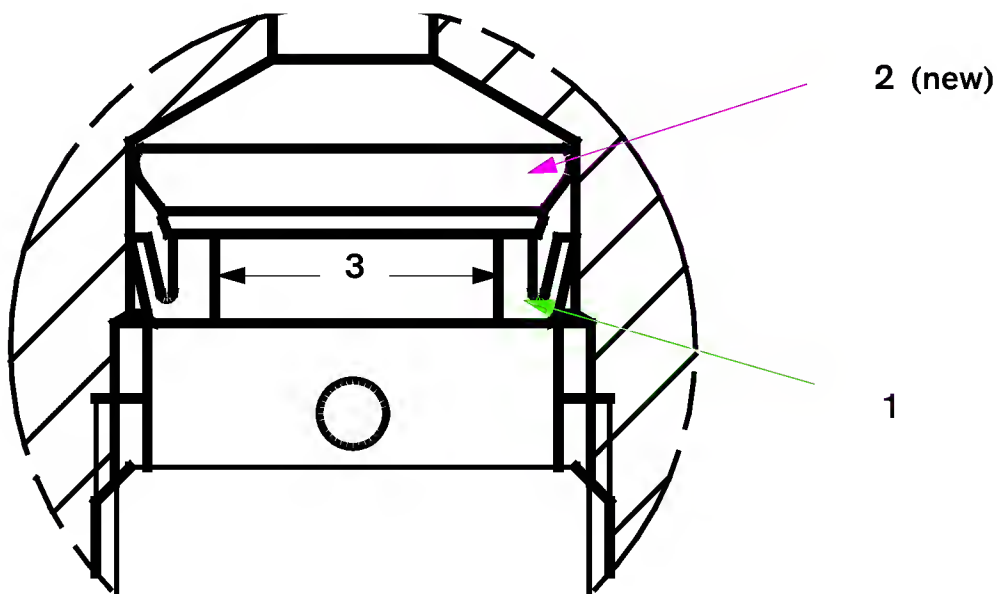

Fig. 26: Sectional view of NIST, DISS connectors (end piece) in the gas inlet block
- Apply Oxygenoex S4 7901580 on the recess (3, see Fig. 26:) of the gas inlet insert.